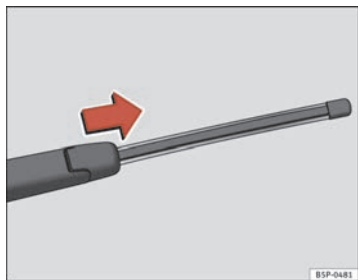

Fig. 170 Remove rear window wiper blade
- Lift the wiper arm away from the glass ⇒ page 238, fig. 170.
- Slide the blade adapter in the direction of the arrow and remove the blade ⇒ page 238, fig. 170.